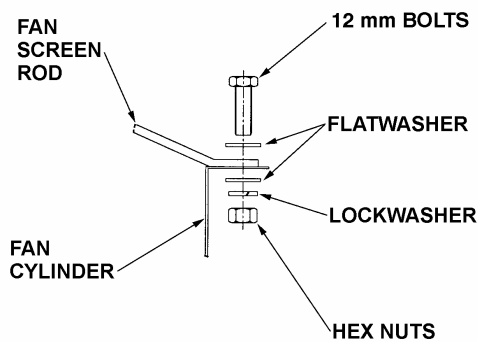

Figure 15 - Attaching Fan Screen to Cylinder
2. At each hole, attach the fan screen to the discharge cylinder as shown in Figure 15.
4. At each hole, attach the fan screen to the discharge cylinder as shown in Figure 15. At the four points where the support frame meets the cylinder, bolt the support frame to the cylinder together with the fan screen.